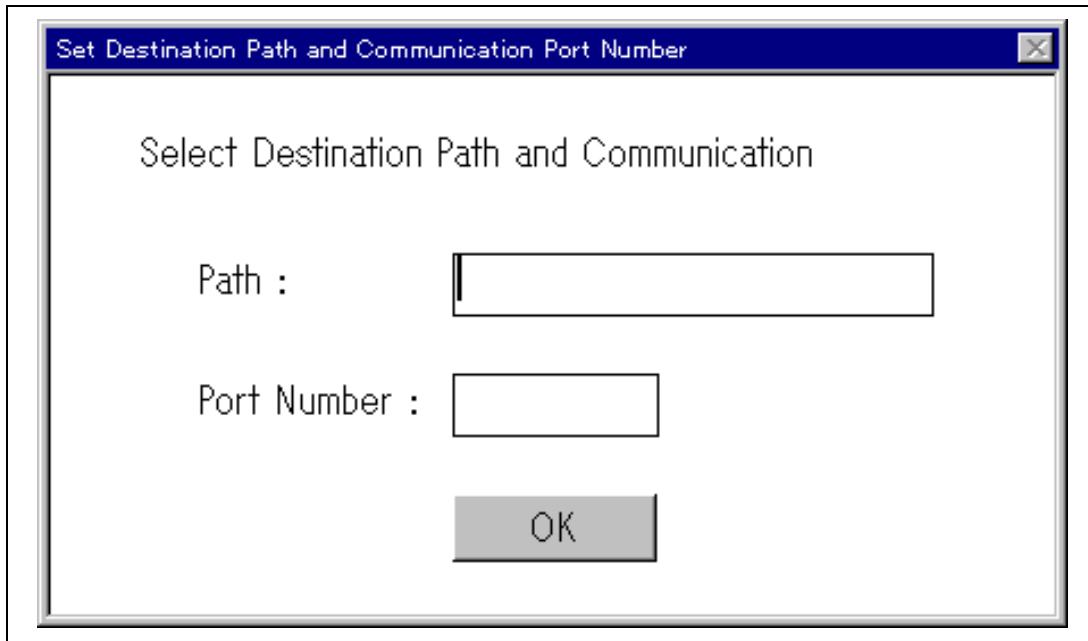

Figure 3.2 Installation Dialog Box
4. The installation dialog box shown in Figure 3.2 is displayed.